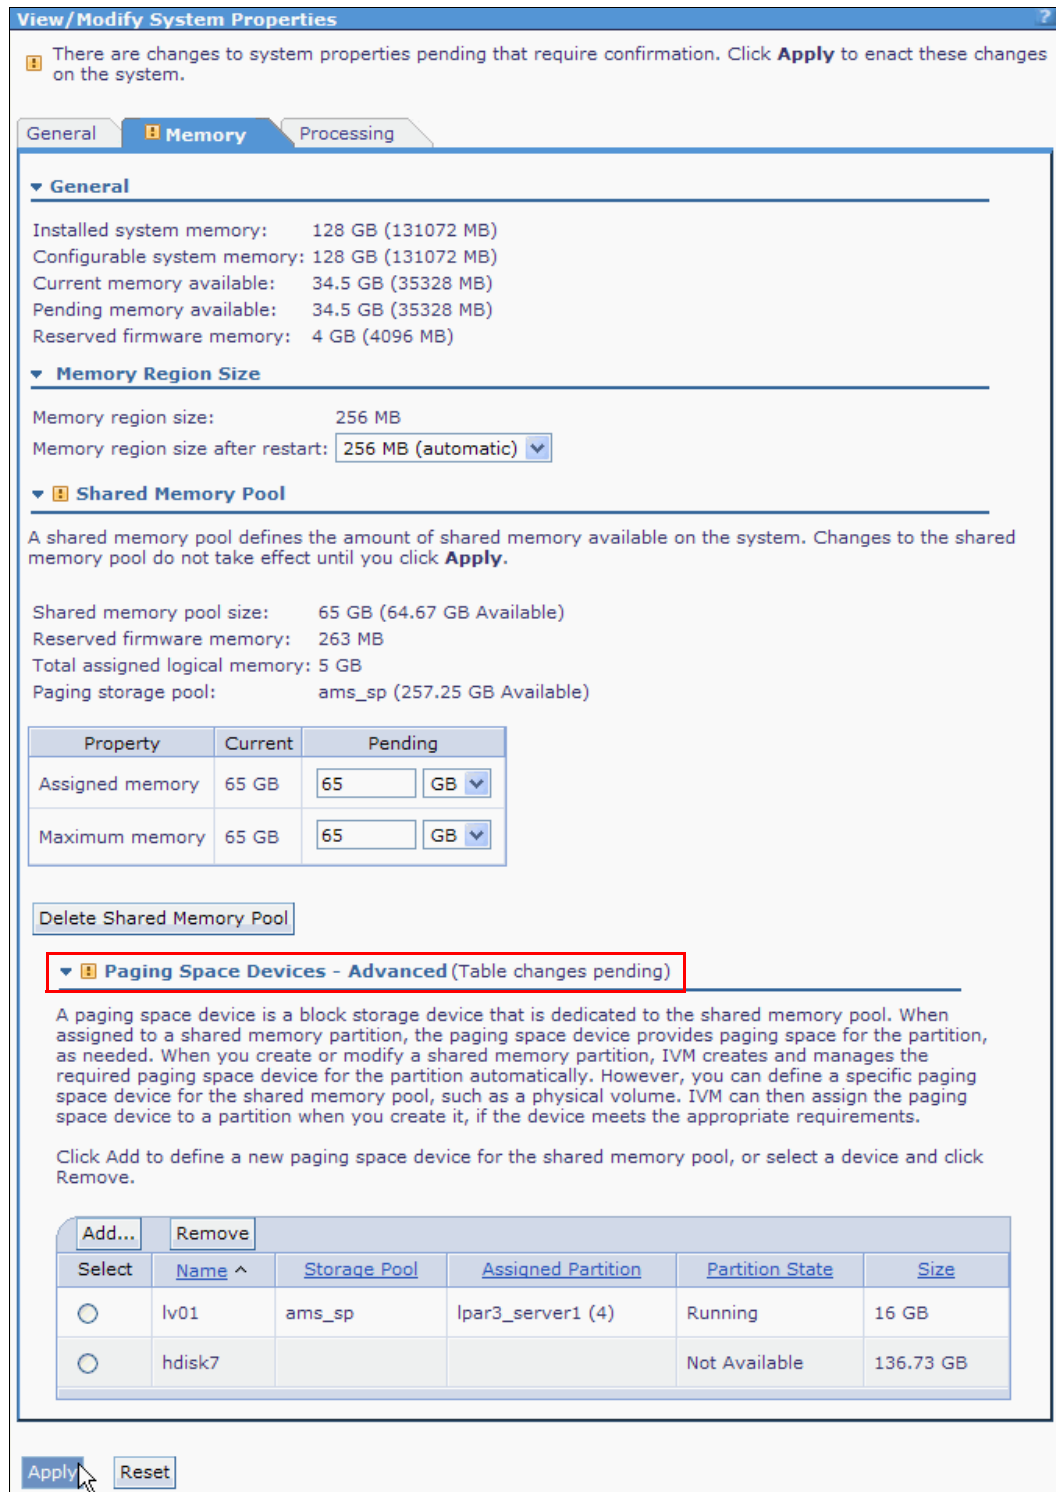

Figure 4-32 Adding paging space devices
- You will see exclamation marks in the Paging Space Devices - Advanced menu. This view means that the configuration is still pending, as depicted in Figure 4-32. Click **Apply** to make the changes.